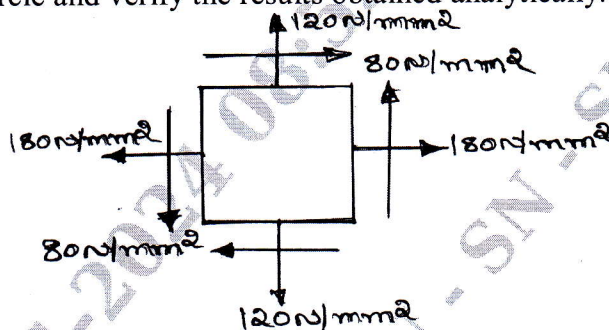

Fig.Q.4
- 4 The state of stress at a point in a strained material is shown in Fig.Q.4(a). Determine: